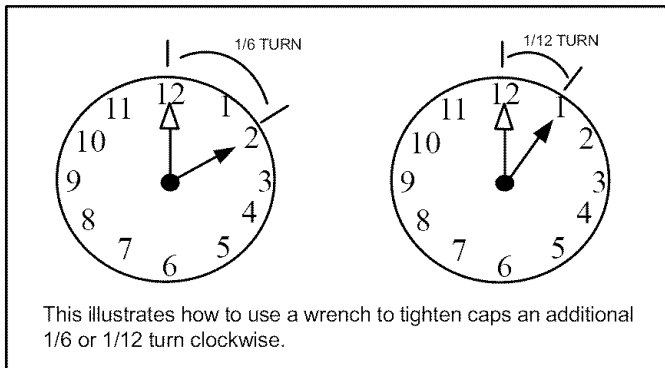

Figure 1. Cap Tightening Distances
- *Without Torque Wrench:* Finger tighten and with an appropriately sized wrench to turn an additional 1/6 turn clockwise as illustrated in figure 1.
- *Without Torque Wrench:* Finger tighten and with an appropriately sized wrench to turn an additional 1/12 turn clockwise as illustrated in figure 1.
- *Without Torque Wrench:* Finger tighten and use an appropriately sized wrench to turn an additional 1/6 turn clockwise as illustrated in figure 1.
- *Without Torque Wrench:* Finger tighten and use an appropriately sized wrench to turn an additional 1/12 turn clockwise as illustrated in figure 1.